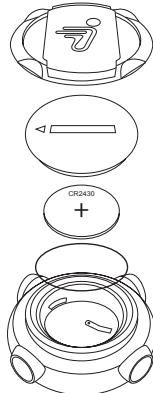

Figure 42. Replacing or Reseating the InfoKey Controller Battery
2. Using a coin or a flathead screwdriver, unscrew the back cover of the InfoKey Controller. See **Figure 42**.